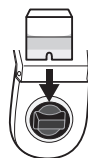

Fig.7
9. Insert the cell filled with colored sample into the cell box and press <Blank>. (Fig.7)